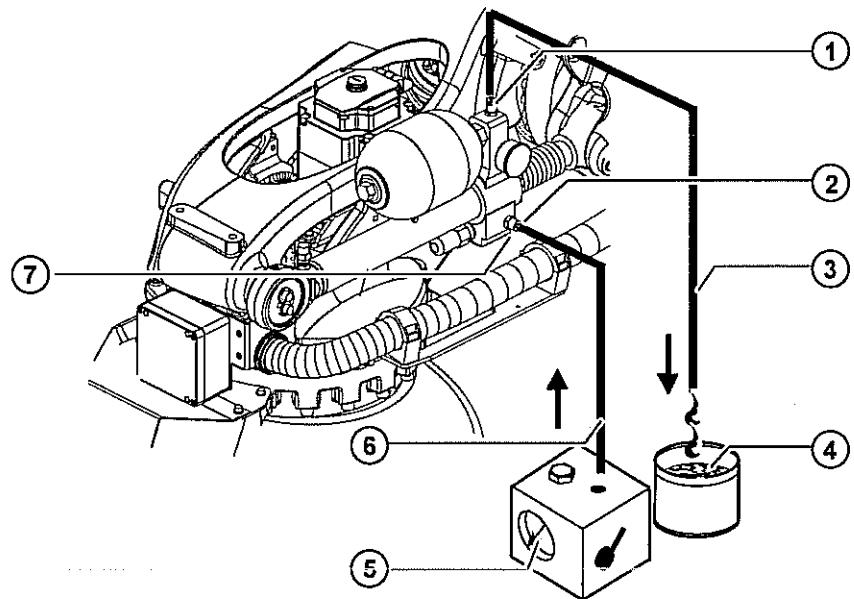

Fig. 11-6: Topping up the hydraulic oil
18. Unscrew the screw cap on the filler neck (>>> Fig. 11-6) and connect the hydraulic tube.